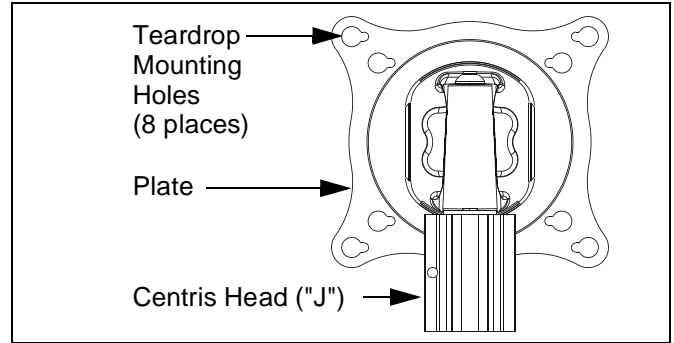

Figure 3: Rotate Plate
4. Rotate plate on Centris head ("J") so that teardrop mounting holes in plate are horizontal (See Figure 3).